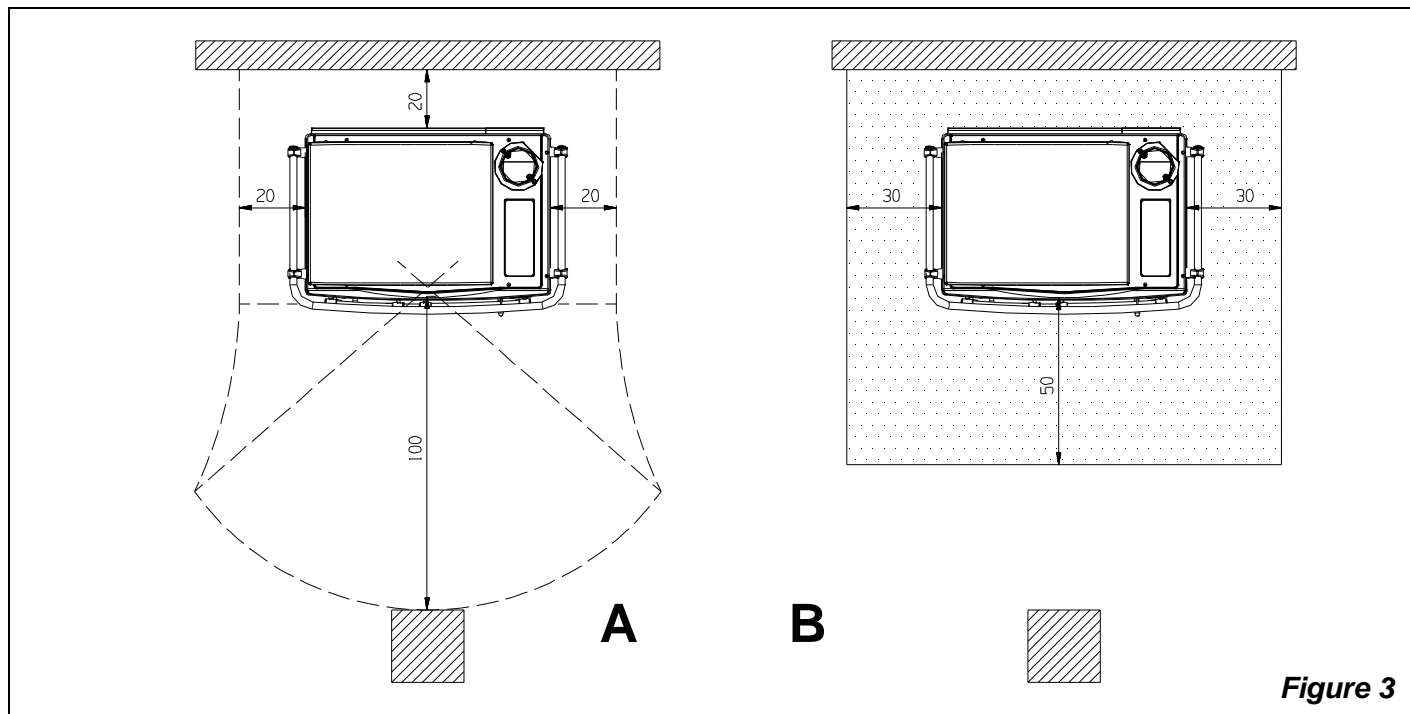

Figure 3
- a) the minimum distance from flammable object and sensitive to heat (furniture, wood sheathings, fabrics, etc.) and from materials with flammable structure must be **20 cm's**. on the back and on both sides, in order to assure a sufficient thermal insulation (Figure 3 A).
- c) if the cooker must be installed on a floor not completely refractory, you must foresee a fireproof background, e.g. a steel platform (size according to regional filing). The platform must stick out **50 cm's** in front and **30 cm's** sideways (Figure 3 B)